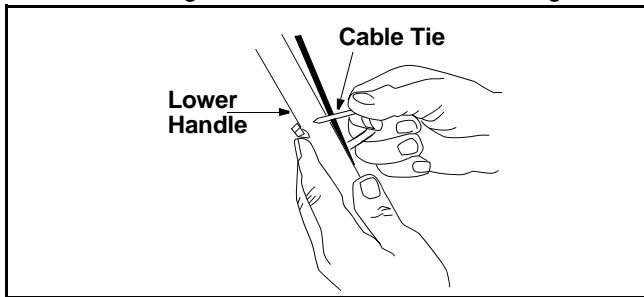

Figure 6
- Attach cables to the lower handle with the two cable ties already on the lower handle, insert pegs on cable ties into the holes on the lower handle. Pull cable ties tight and cut off the extra. See Figure 6.